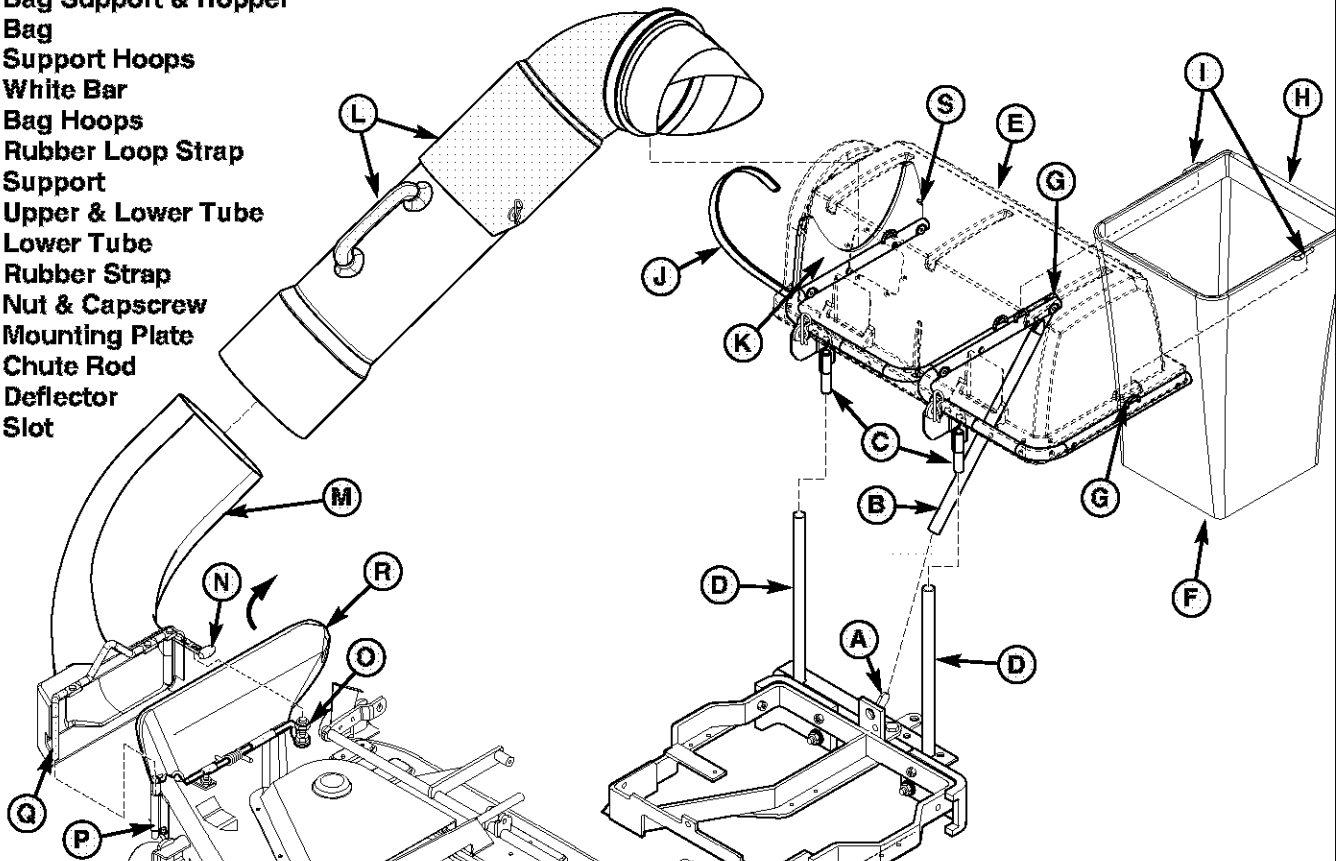

Figure 12. Normal Installation & Removal
1. Mount the bag support & hopper (E, Figure 12) by inserting tube (B) over hitch post (A) and inserting posts (C) into hitch tubes (D).
2. Pivot bag support and hopper (E) up. Install bag (F) with white bar (H) towards the rear. Set bag hoops (I) on bag support hoops (G) as shown. Repeat for other side.
3. Install lower tube (M). Lift discharge deflector up (R). Insert lower chute rod (Q) into mounting plate (P). Pull rubber strap (N) and secure by placing hole closest to knob in strap completely over locknut and cap-screw (O).
4. Slide upper & middle tube (L) over lower tube (M). Set upper & middle tube (L) onto support (K). Secure with rubber loop strap (J) by hooking it into slot (S).
1. Unhook rubber loop strap (J, Figure 12) from slot (S).
2. Remove upper & lower tube (L) from support (K) and lower tube (M).
3. Disconnect rubber strap (N) from locknut and cap-screw (O). Remove lower tube (M) from bracket (P). See that discharge deflector (R) returns to the DOWN position.
4. Lift and remove bag support and hopper from hitch tubes (D) and the hitch post (A).